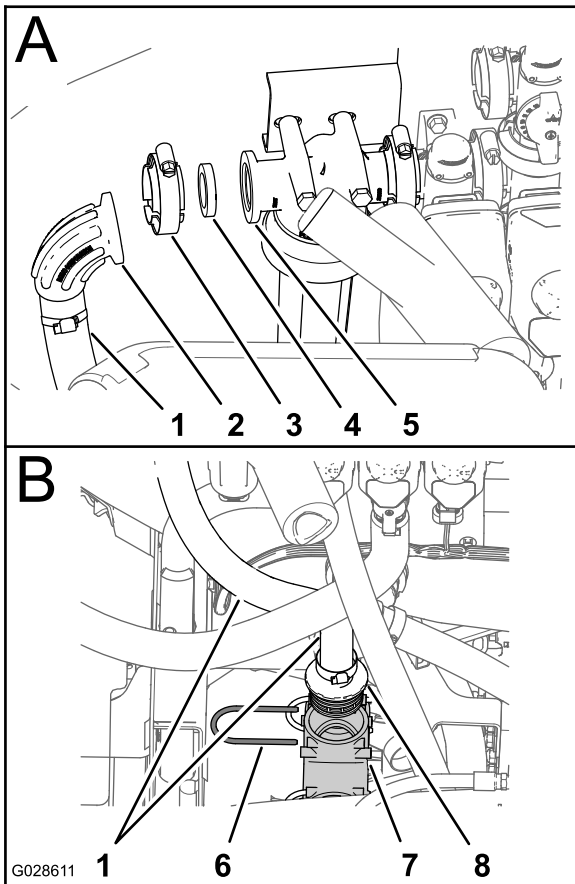

Figure 17
1. Remove the flange clamp, gasket, elbow, and inlet hose from the pressure-filter head (A of Figure 17).
- Remove the retainer that secures the straight-barbed fitting of the inlet hose to the lower T-fitting of the sprayer system and remove the inlet hose from the machine (B of Figure 17)